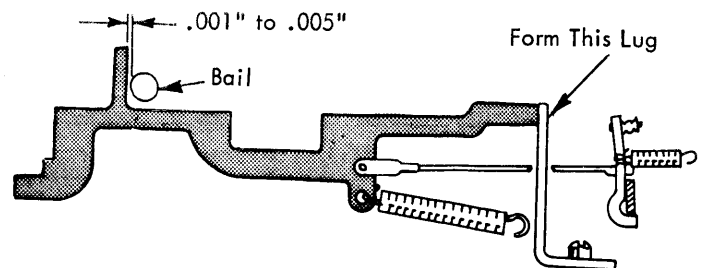

FIGURE 15. Latch Interposer Stop (Old Style)
15. Latch Interposer Stop - Form the stop lugs to obtain .001" to .005" clearance between each latch interposer and its respective selector bail (Fig. 15 or 16).